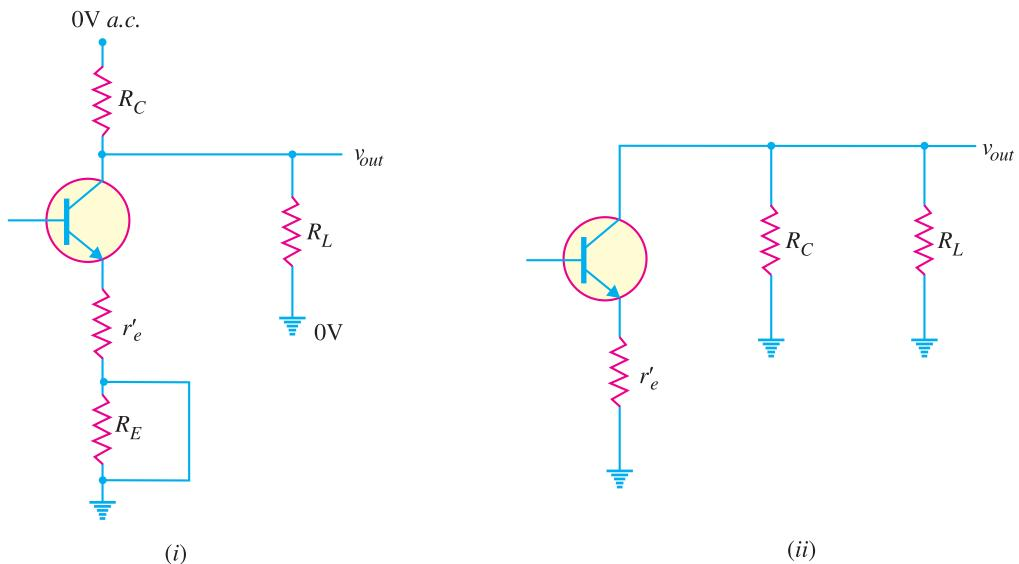

Fig. 10.28
**Voltage gain for loaded amplifier.** Fig. 10.28 (i) shows a part of a.c. equivalent circuit of the
*CE* amplifier. Note that load  $R_L$  is connected to the circuit. Remember that for a.c. analysis,  $V_{CC} = 0V$  i.e. at ground. Since both  $R_C$  and  $R_L$  are connected to the collector on one side and ground on the other, the two resistors are in \*parallel as shown in Fig. 10.28 (ii).